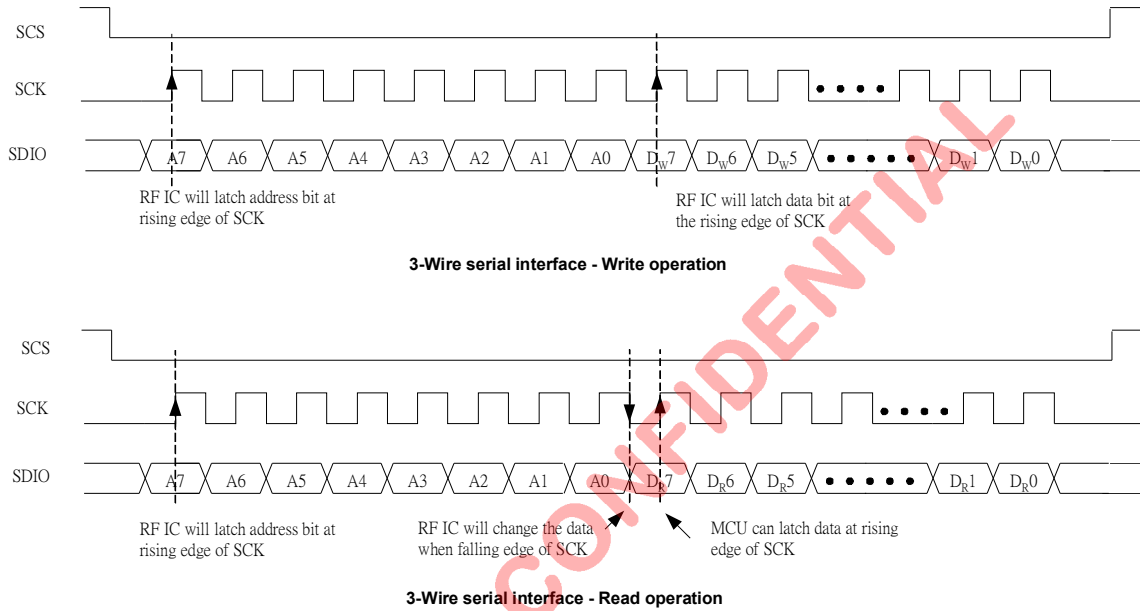
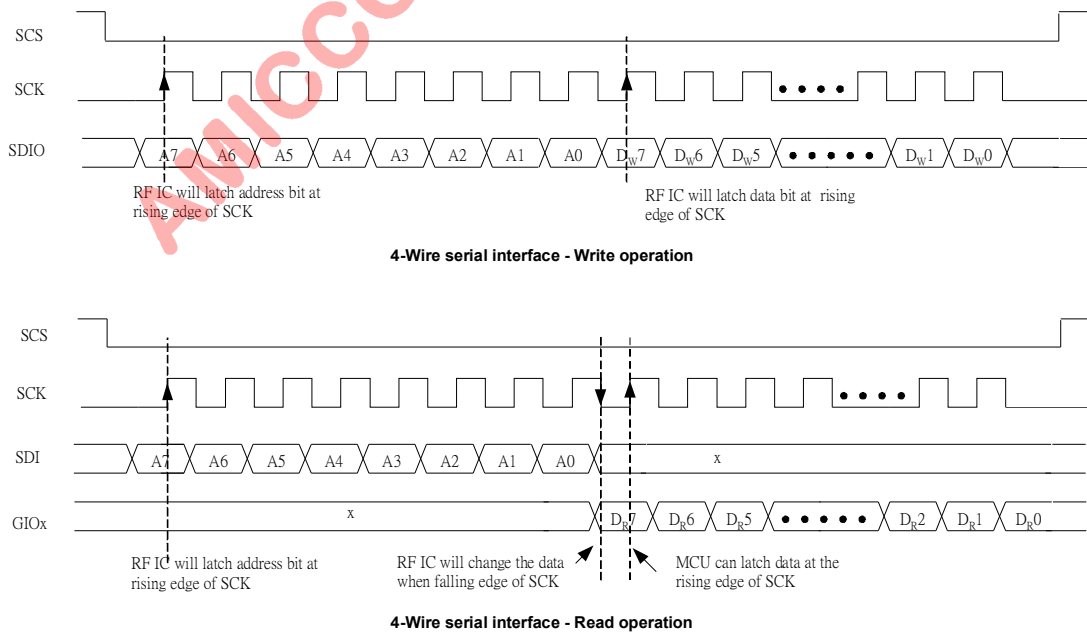

Figure 10.2 Read/Write Timing Chart of 3-Wire SPI
Figure 10.3 Read/Write Timing Chart of 4-Wire SPI
The first bit (A7) is critical to indicate A7105 the following instruction is “Strobe command” or “control register”. See Table 10.1 for SPI format. Based on Table 10.1, To access control registers, just set A7=0, then A6 bit is used to indicate read (A6=1) or write operation (A6=0). See Figure 10.2 (3-wire SPI) and Figure 10.3 (4-wire SPI) for details.
**Bit [7:0]:** SPI input or output data, see Figure 10.2 and Figure 10.3 for details.
User can refer to Figure 10.2 for SPI write timing chart in details. Below is the procedure of ID write command.
User can refer to Figure 10.2 for SPI read timing chart in details. Below is the procedure of ID read command.